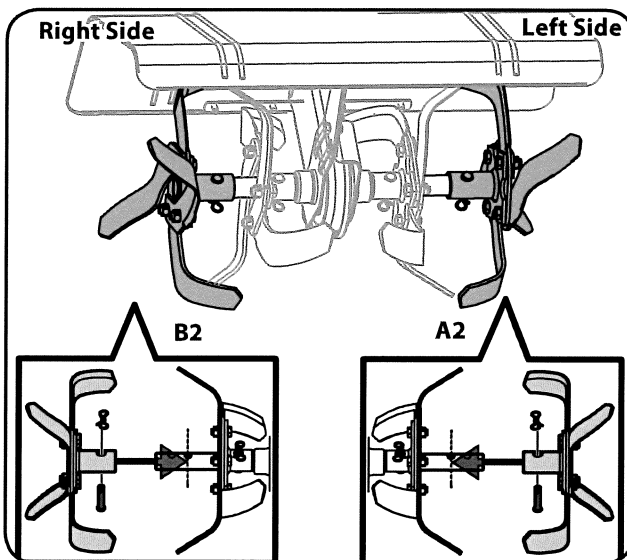

Figure 3-2
3. Use two clevis pins and two cotter pins from the manual bag. From the FRONT of the tiller install the outer LH tines (A2) onto the outer left side of the shaft. Install the outer RH tines (B2) onto the outer right side of the shaft. see figure 3-2.